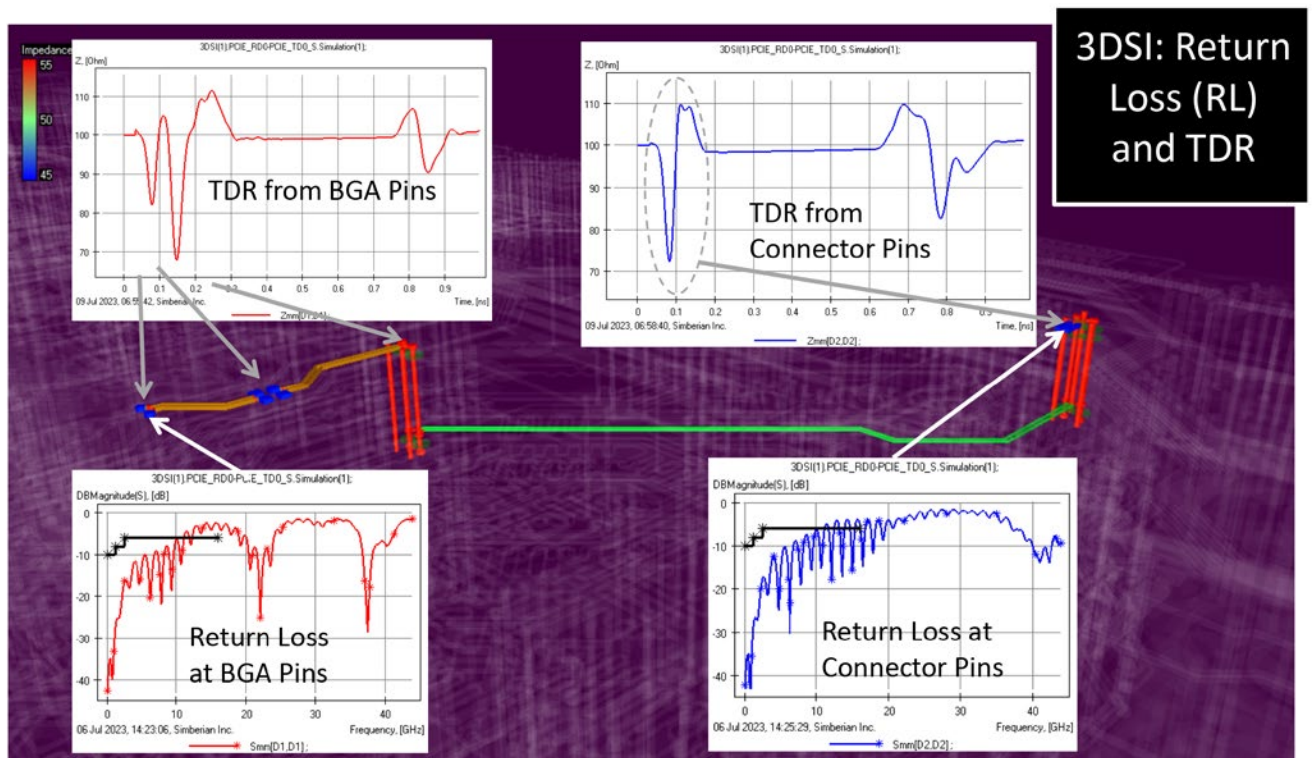

Figure 4: Examples of violations, primarily caused by reflections.
get differential impedance is 100 ohms, and we can see that the link may require some improvements. The question is how the impedance violations affect the signal transmission. Analysis of reflections in 3D SI analysis mode (or Fast SI for lower data rates) can answer that. Accurate 3D SI models are used here to compute return loss (RL) and do the TDR analysis as illustrated in Figure 4.